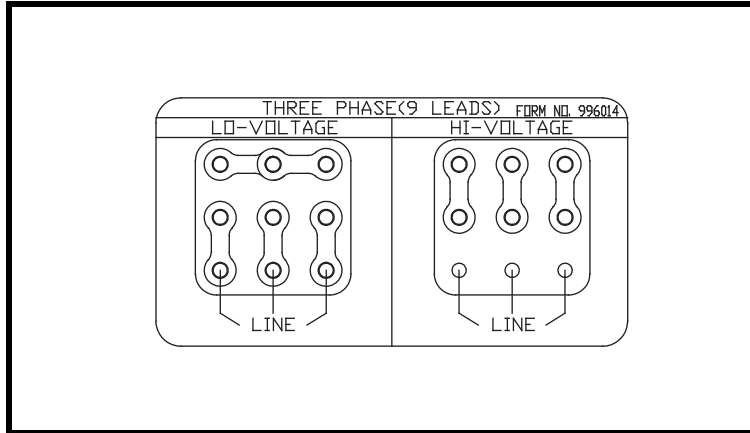

Figure 5. Three Phase Wiring Diagrams
1. Find wiring diagram number for your vibrator on vibrator nameplate or see Figure 5.